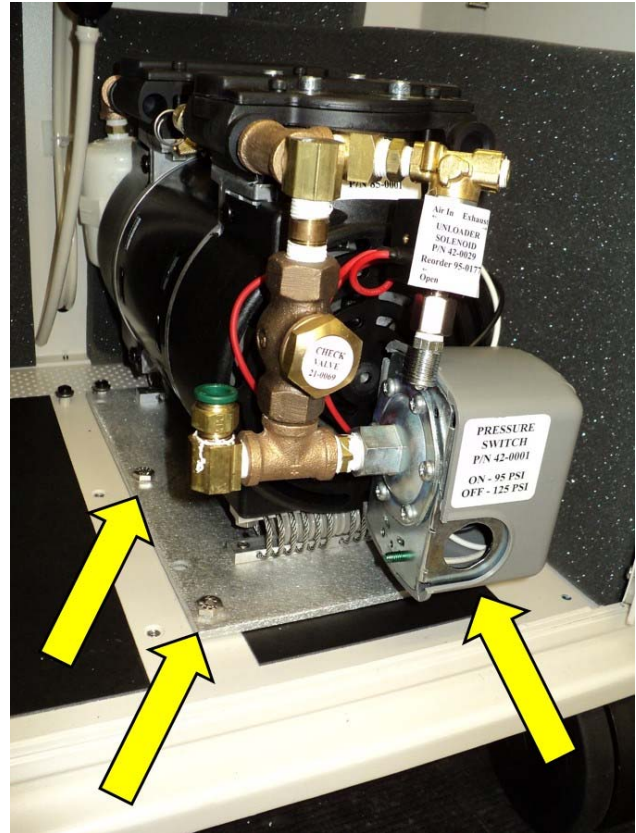

Fig. 3
6. Locate the three locking hex head bolts on the bottom of the metal plate holding the compressor. There are two in the front and one in the center on the left side. Remove them using a 7/16" wrench or socket and set aside. (Fig. 3)